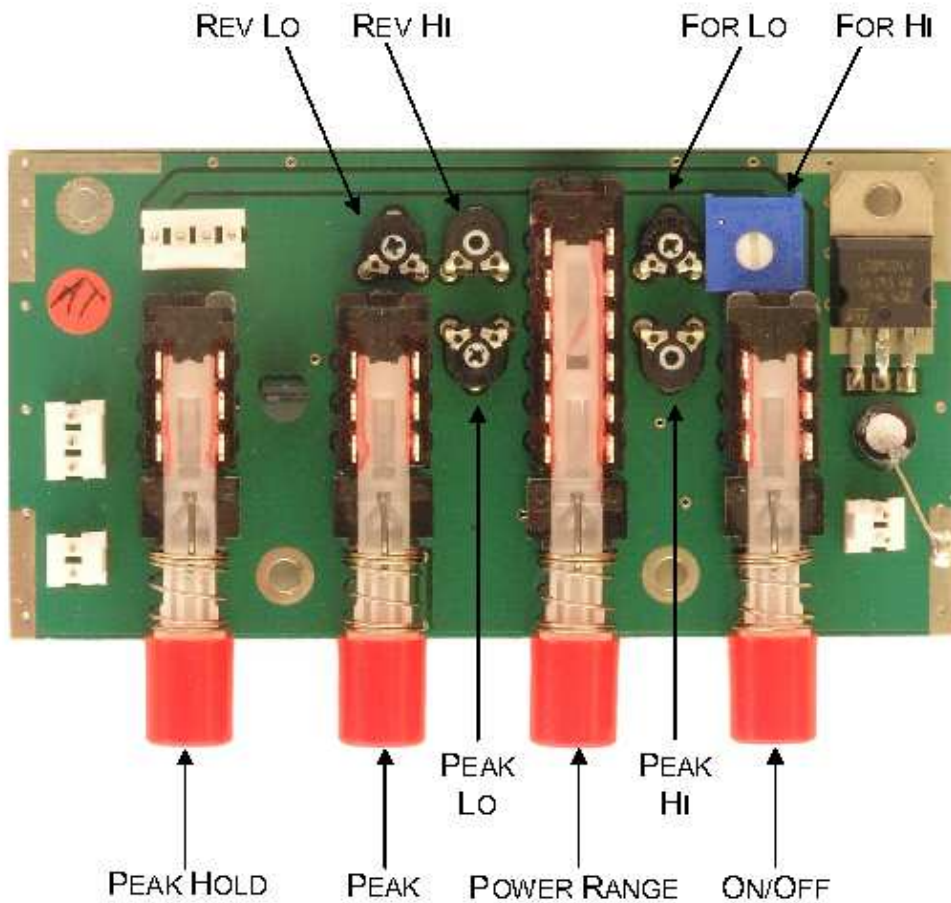

Figure 10.1: Meter Board Adjustment Locations
- (e) Adjust the **FOR LO** potentiometer (Figure 10.1, page 92) so that the AT-AUTO_(tm)'s forward power indication matches that shown on the calibrated Wattmeter.
- (c) Adjust the **PEAK LO** potentiometer (Figure 10.1) so that the AT-AUTO_(tm)'s forward power indication matches that shown on the calibrated Wattmeter.
- (c) Adjust the **PEAK HI** potentiometer (Figure 10.1) so that the AT-AUTO_(tm)'s forward power indication matches that shown on the calibrated Wattmeter.
- (c) Adjust the **FOR HI** potentiometer (Figure 10.1) so that the AT-AUTO_(tm)'s forward power indication matches that shown on the calibrated Wattmeter.
- (b) Adjust the **REV HI** potentiometer (Figure 10.1) so that the AT-AUTO_(tm)'s reflected power indication matches the forward power displayed on the calibrated Wattmeter.
- (c) Adjust the **REV LO** potentiometer (Figure 10.1) so that the AT-AUTO_(tm)'s reflected power indication matches the forward power displayed on the calibrated Wattmeter.